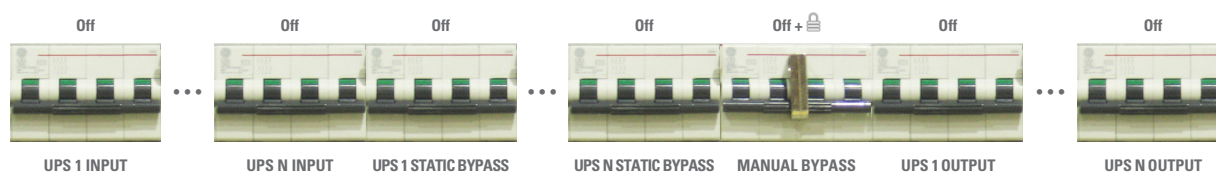

Fig. 10. Position of the manual bypass switches «Out of service» (with several UPS's).
- Turn the «UPS 1 INPUT» to «UPS N INPUT» and «UPS 1 OUTPUT» to «UPS N OUTPUT» switches of the bypass panel to «Off». In case of including the separate bypass line (-B), turn the «UPS 1 STATIC BYPASS» to «UPS N STATIC BYPASS» switches of the bypass panel «Off» too. In the illustration of Fig. 10, it is shown the position of switches once the manoeuvring has been done.